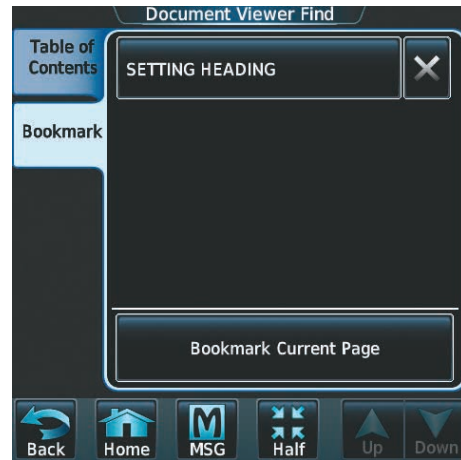

Figure 8-118 Bookmark Created
- 5) Touch **OK**. The newly created bookmark is displayed as in Figure 8-118.